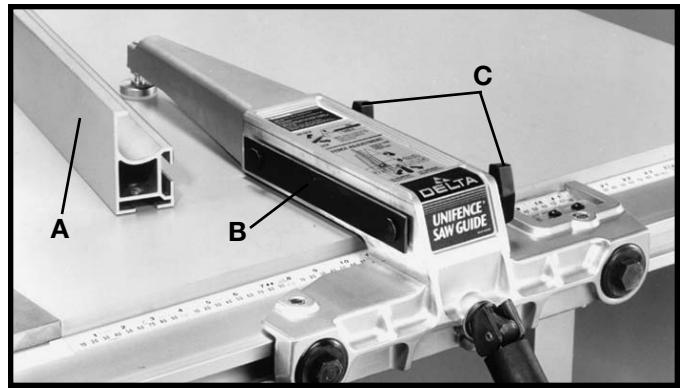
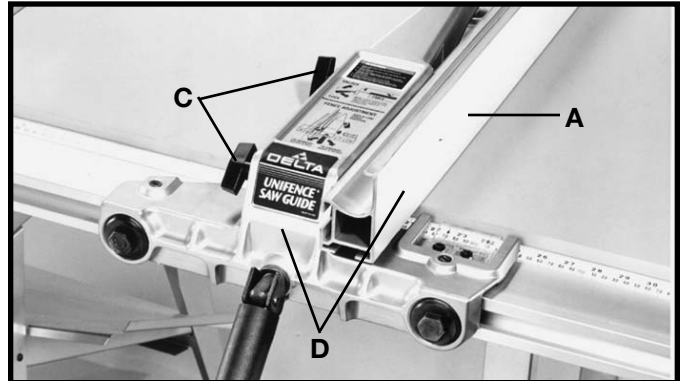

Fig. 54
Fig. 55
In some cases it may be desirable to use the fence on the left side of the saw blade. This is accomplished by repositioning the fence (A) Figures 54 and 55, fence clamp bar (B) and lock knobs (C) so that the fence (A) will be attached to the right side of the fence body, as shown in Fig. 55. The complete fence assembly (D) Fig. 55, can easily be moved to the left side of the saw table.